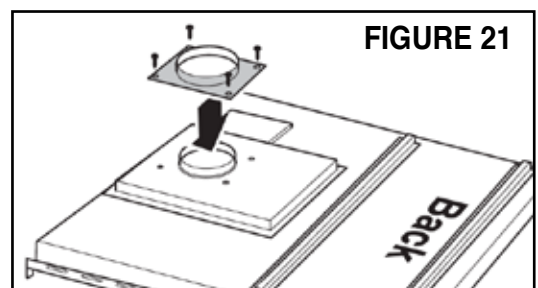

FIGURE 21
- Mount the vent collar on the back of the hood (FIGURE 21)